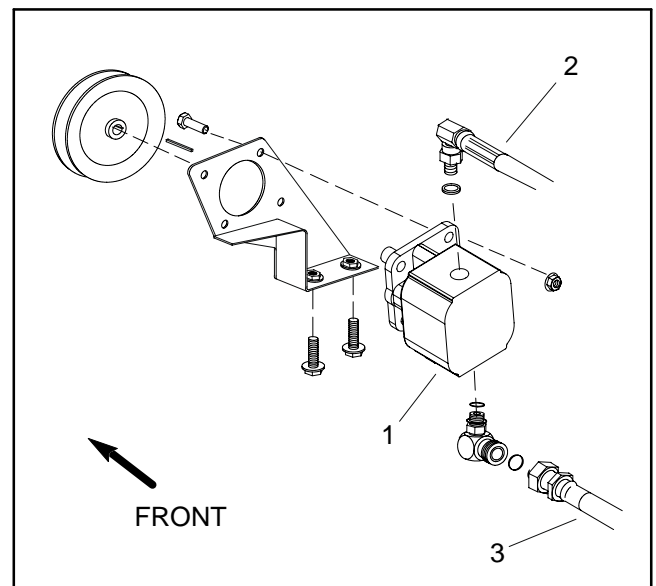

Figure 14
5. Clean hose fitting and disconnect pressure hose from the top of the steering pump (Fig. 14).